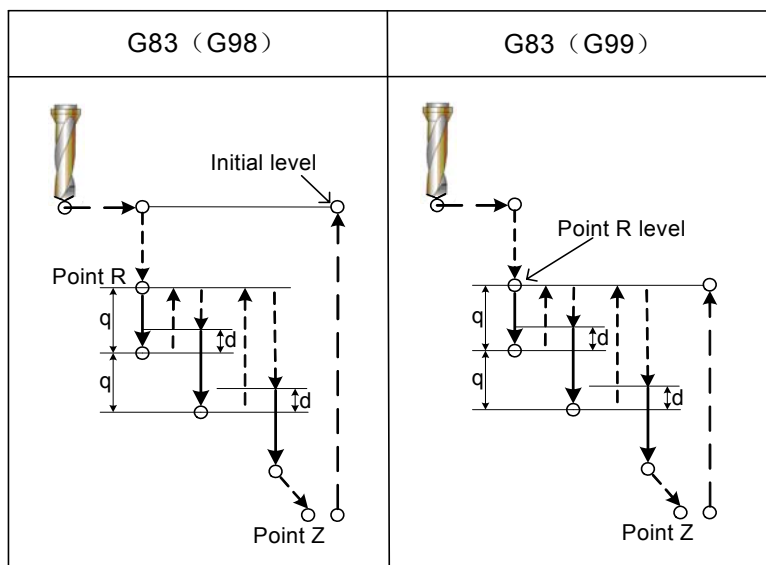

Fig. 3-4-4-1
**Q:** It specifies the cut depth for each cutting feed, which must be specified as an incremental value. In the second and the subsequent cutting feed, the tool rapidly traverses to the position which has a distance  $d$  to the end position of the last drilling and then performs the cutting feed again.  $d$  is set by parameter P271, as is shown in Fig. 3-4-4-1.